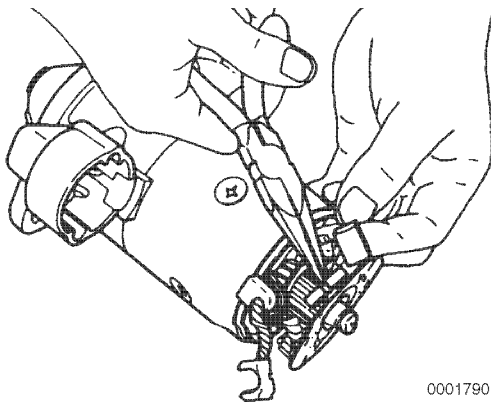

Figure 8-8
10. Pull up the brush springs using a brush spring puller (**Figure 8-8**). On the negative (-) side, bring the brush spring into contact with the side of the brush for lifting from the commutator surface. On the positive (+) side, remove the brush from the brush holder assembly.